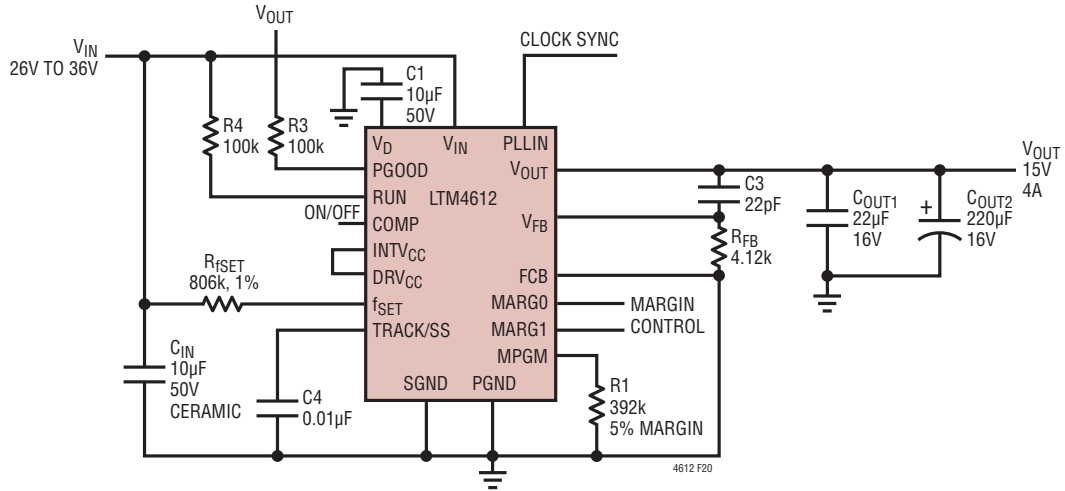

Figure 20. 26V to 36VIN, 15V at 4A Design with Reduced Frequency
**Table 2. Output Voltage Response Versus Component Matrix (Refer to Figure 20)**